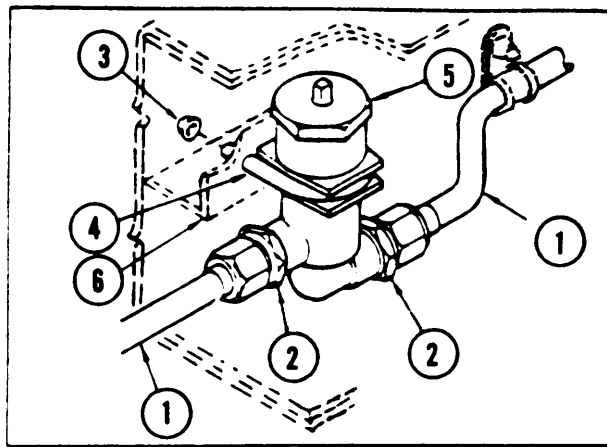
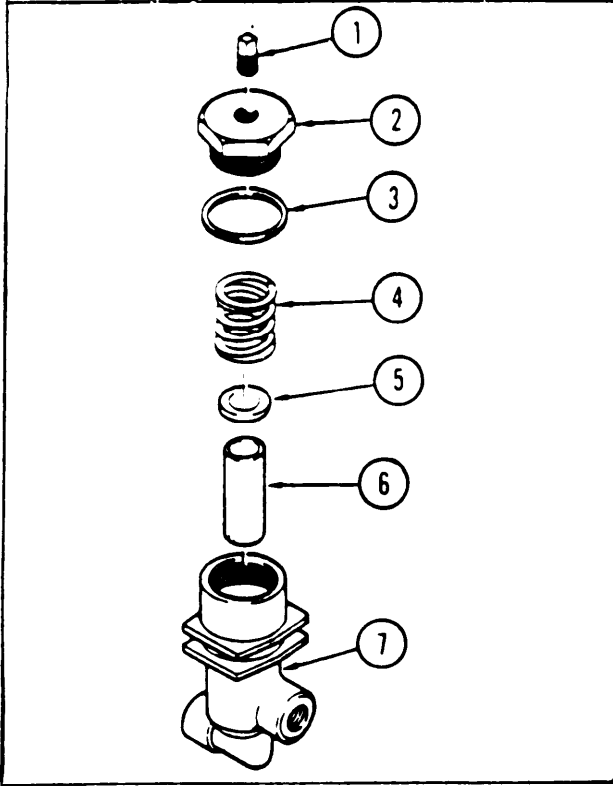

Figure 2-25, Trailer Air Cleaner Assembly (ARMY)
Figure 2-26. Trailer Air Cleaner (ARMY)
2-33. TRAILER AIR CLEANER ASSEMBLY. (Figure 2-25) (ARMY)
a. Removal. (Figure 2-25)
- (1) Disconnect tubing (1) and remove fittings (2).
- (2) Remove nuts (3) and U-bolt clamp (4) securing air cleaner assembly (5) to trailer frame (6).
b. Disassembly. (Figure 2-26)
- (1) Place air cleaner assembly on clean dry workbench.
- (2) Remove pipe plug (1) from bushing adapter (2).
- (3) Remove bushing adapter (2) and gasket (3).
- (4) Remove spring (4), washer (5) and element (6) from housing (7).
- (1) Inspect element for dirt or damage. If element is dirty or damaged, replace it.
- (2) Inspect housing for cracks or damaged threads. If housing contains cracks or threads are damaged, replace housing.
d. Assembly. (Figure 2-26)
- (1) Install element (6), washer (5) and spring (4) in housing (7).
- (2) Install gasket (3) on bushing adapter (2), then install bushing adapter (2) and gasket (3), as a single unit, in housing (7).
- (3) Install pipe plug (1) in bushing adapter (2).
e. Installation. (Figure 2-25)
- (1) Position air cleaner assembly (5), with pipe plug up and tube connections down, to trailer frame (6).
- (2) Install U-bolt clamp (4) and nuts (3) to secure air cleaner assembly (5) to trailer frame (6).
- (3) Install fittings (2), then connect tubing (1) to both sides of air cleaner assembly (5).